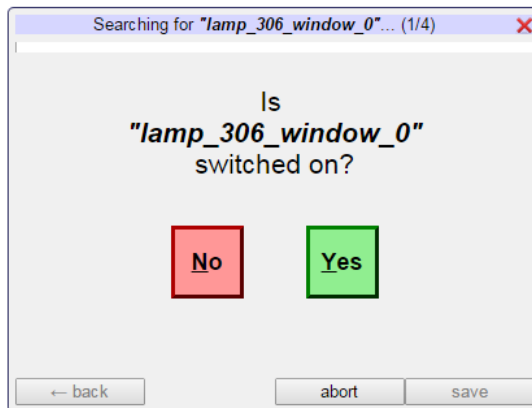

Figure 189: DALI Search Wizard.
5. This starts a binary search to identify the ballast(s). A dialog as shown in Figure 189 appears.